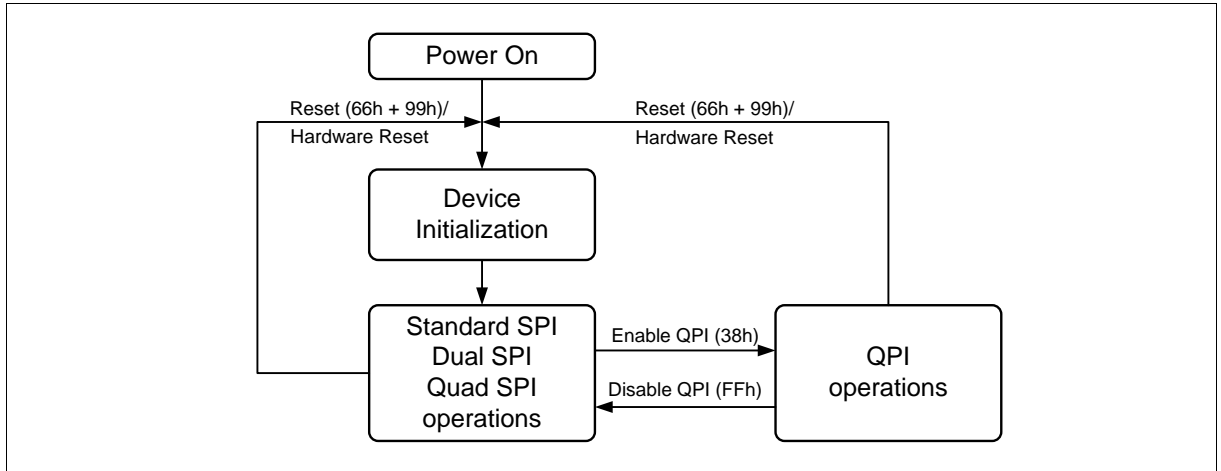

Figure 5 FM25Q128AI3 Serial Flash Memory Operation Diagram
The FM25Q128AI3 supports Quad Peripheral Interface (QPI) operations only when the device is switched from Standard/Dual/Quad SPI mode to QPI mode using the “Enable QPI (38h)” instruction. The typical SPI protocol requires that the byte-long instruction code being shifted into the device only via DI pin in eight serial clocks. The QPI mode utilizes all four DQ pins to input the instruction code, thus only two serial clocks are required. This can significantly reduce the SPI instruction overhead and improve system performance in an XIP environment. Standard/Dual/Quad SPI mode and QPI mode are exclusive. Only one mode can be active at any given time. “Enable QPI (38h)” and “Disable QPI (FFh)” instructions are used to switch between these two modes. Upon power-up or after a software reset using “Reset (99h)” instruction or hardware reset, the default state of the device is Standard/Dual/Quad SPI mode. To enable QPI mode, the non-volatile Quad Enable bit (QE) in Status Register-2 is required to be set. When using QPI instructions, the DI and DO pins become bidirectional DQ₀ and DQ₁, and the WP# and HOLD# pins become DQ₂ and DQ₃ respectively. See Figure 5 for the device operation modes.